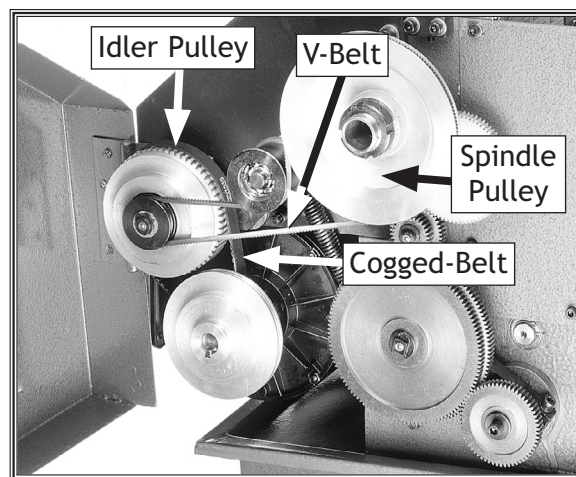

Figure 47. Change gear access door open.
4. While carefully turning the spindle pulley (**Figure 47**), roll off and then roll on the new belt.
4. While carefully turning the spindle pulley (**Figure 47**), roll off the V-belt.
5. Using a 16mm open open-end wrench, loosen the idler pulley spindle jam nut (**Figure 47**), and the retaining nut. The idler pulley and spindle will then slide toward the motor de-tensioning the cogged-belt.